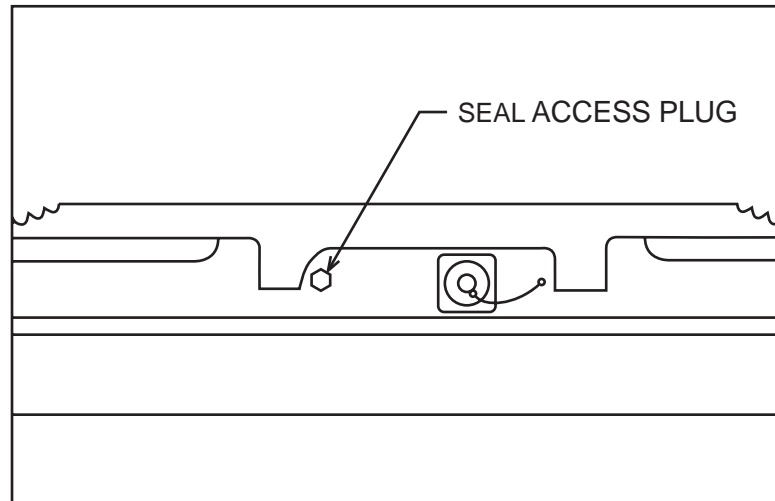

Figure 1: Access to calibration port.
- 9) Remove the cap screw located on one side of the weigh pad under the handle (see Figure 1).